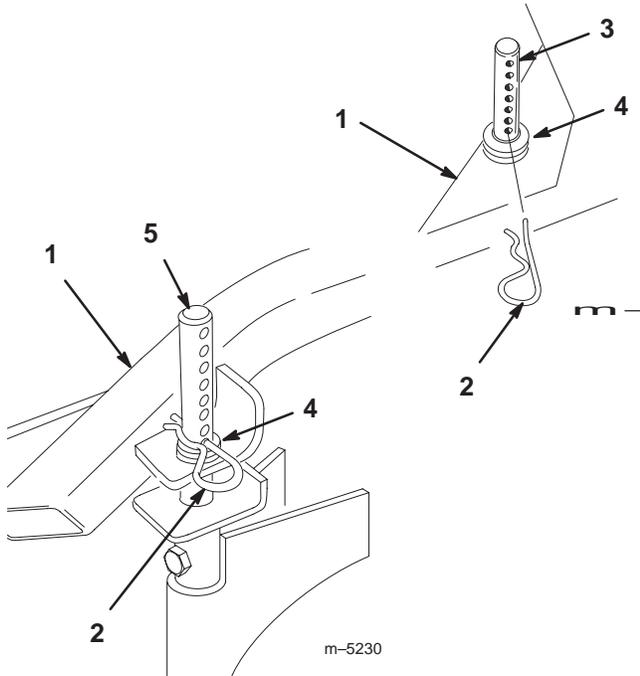

Figure 16
- To adjust, remove hairpin cotter from height-of-cut post (Fig. 16).
- Select hole in height-of-cut post corresponding to the height-of-cut desired (Fig. 16).
- Lift on side of deck and remove hairpin cotter (Fig. 16).
- Add or remove spacers if needed and then align holes and insert hairpin cotter (Fig. 16).